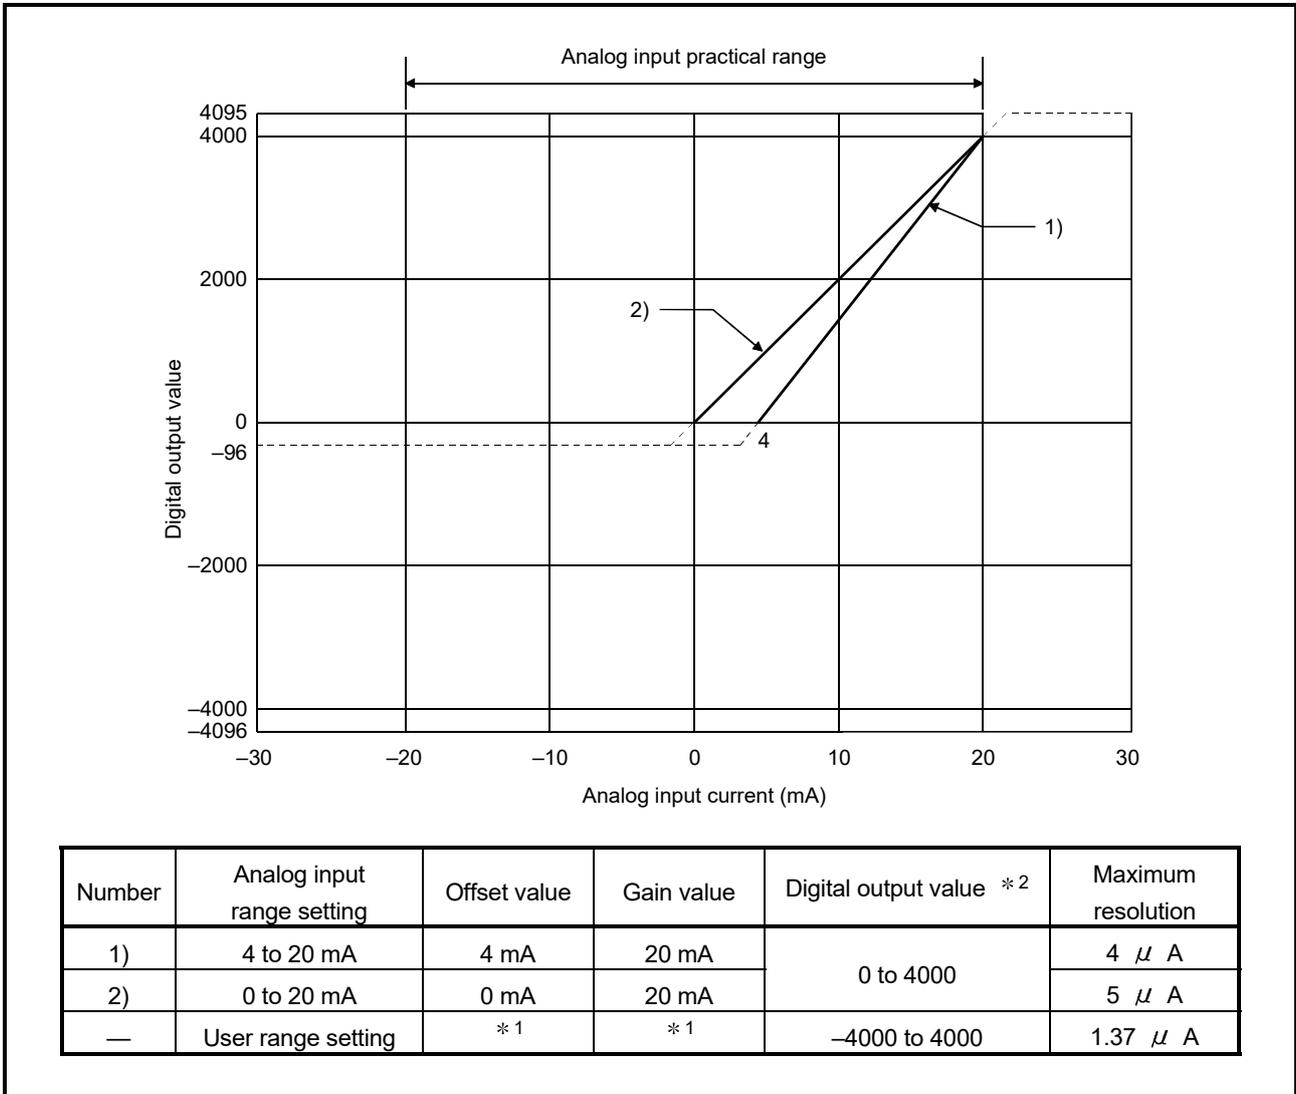

Figure 3.3 Current input characteristic in normal resolution mode
Figure 3.3 shows a graph of the current input characteristic in normal resolution mode.
<p>(1) Set within the analog input range and digital output range for each input range. If these ranges are exceeded, the maximum resolution and accuracy may not fall within the performance specifications. (Avoid using the dotted line area shown in Figures 3.3 and 3.4.)</p> <p>(2) When inputting an analog current out of the range between -30mA to 30mA, the elements may be damaged.</p> <p>(3) Set the offset/gain values for the user range setting *1 within a range in which the following conditions are met. (a) Gain value ≤ 20mA, Offset value ≥ 0mA (b) Choose either one of the following formulas, which corresponds to the resolution mode to be set. 1) Normal resolution mode: { (Gain value) - (Offset value) } &gt; 5.5mA 2) High resolution mode: { (Gain value) - (Offset value) } ≥ 16.0mA</p> <p>(4) When an analog value that exceeds the range of Digital output value *2 is entered, Digital output value will be fixed at the maximum or minimum value.</p>